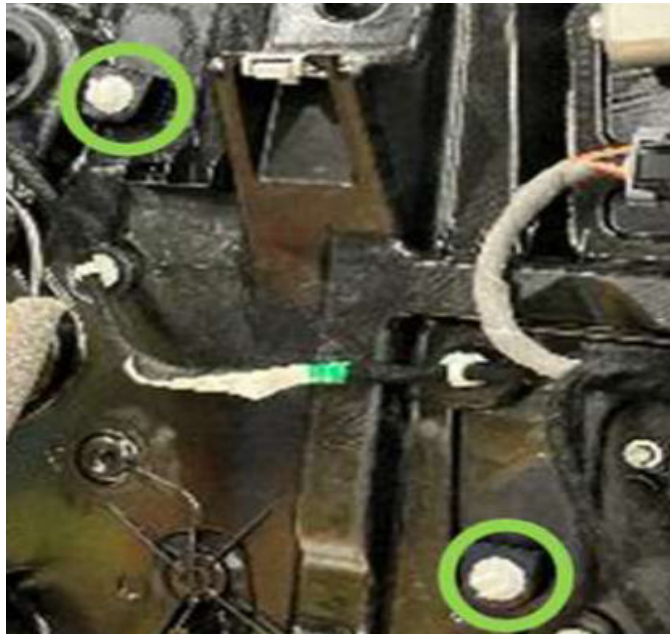

Fig. 20
22. Pop out the inside handle cable from the white clips and allow the cable to sit free Fig. 20.